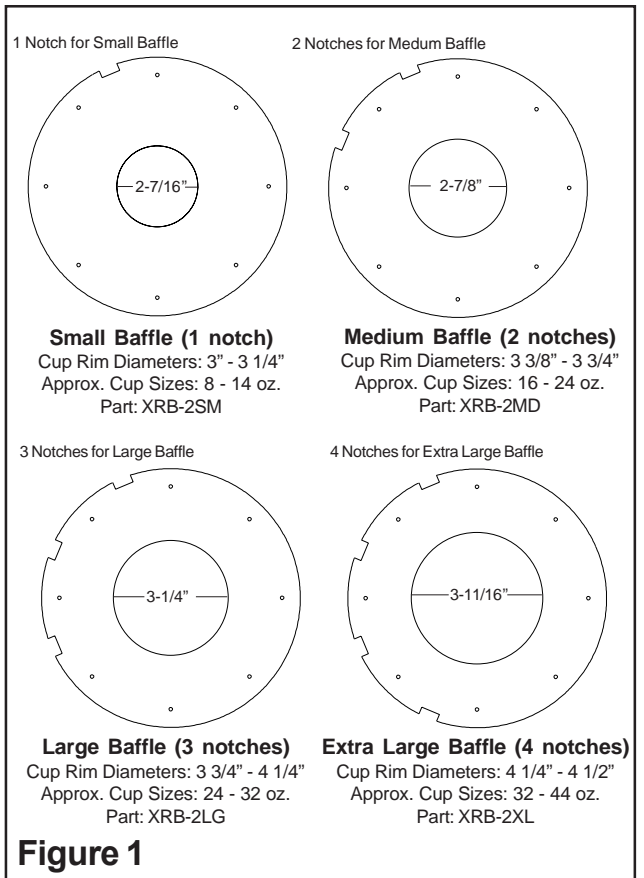

Figure 1
- If the dispenser was packaged with a set of rubber baffles, you must determine which is the correct baffle for your particular cup size. The rubber baffles can be found inside the dispenser behind the cardboard insert. Refer to the diagrams shown on the right for correct baffle sizing. (See Figure 1)